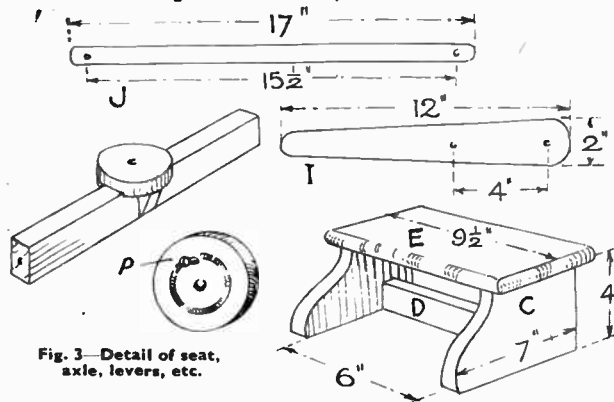

Fig. 3—Detail of seat, axle, levers, etc.
Now make the seat from the four pieces shown in the enlarged detail in Fig. 3. Mark out the shaping of piece on to one piece of stuff measuring 7ins. by 4ins., and after cutting this round, use it as a template for outlining the second
The hand levers—one is shown at (I) Fig. 3, are cut from 1in. deal and to the measurements shown. Although the length is shown as 12ins., it can be made longer if thought necessary, according to the age and size of the youngster who will use the toy. The narrow top part of the levers should be rounded off smooth to afford a safe and comfortable grip for the hand.
Fix the levers to the side rails (B) by means of round-head screws, washers being included on the outside. The connecting rods (J) in Fig. 3 are made from iron bar about $\frac{3}{4}$ in. or so wide by $\frac{1}{2}$ in. thick. Should this be difficult to get, then hardwood can be used, about 1in. wide and $\frac{3}{4}$ in. thick.
Oak or beech would be a most suitable wood here. The pivot screw for the rod is shown at (P) in Fig. 3. Drill holes in the rods, as shown, and connect them to the wheels and the levers with round-head screws. This completes the work of construction.